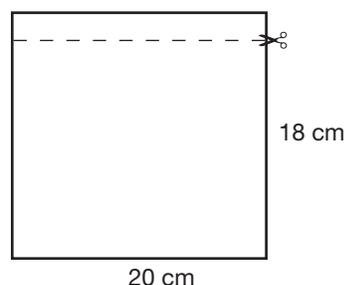

Figure 2.
1. Cut a 20 cm × 18 cm piece of chromatography paper (see Figure 2). Handle the paper by the edges to prevent contamination.